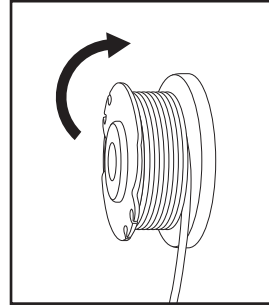

Fig. 27
8. Pull the trimming line (12d) and bend it over (Fig. 27).